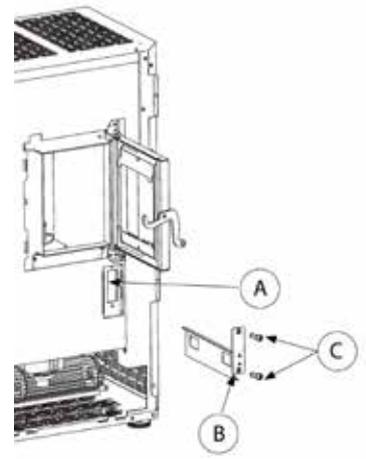

Fig.15
- for easy access to the smoke compartment (A), simply remove the lid (B) by adjusting the two screws (C) (Fig. 15).